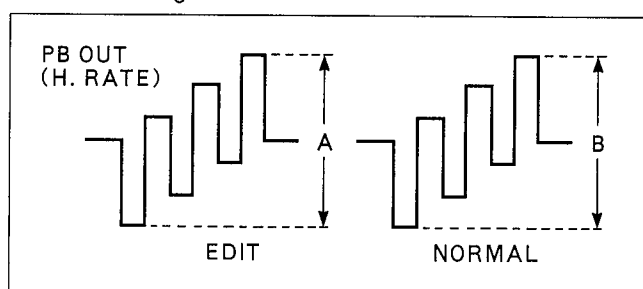

Figure E25
3. Adjust VR9406 so that the levels "A" and "B" become the same at the EDIT mode and NORMAL mode (change the IMAGE MODE SELECT (MENU NO.2001)) as shown in Figure E25.